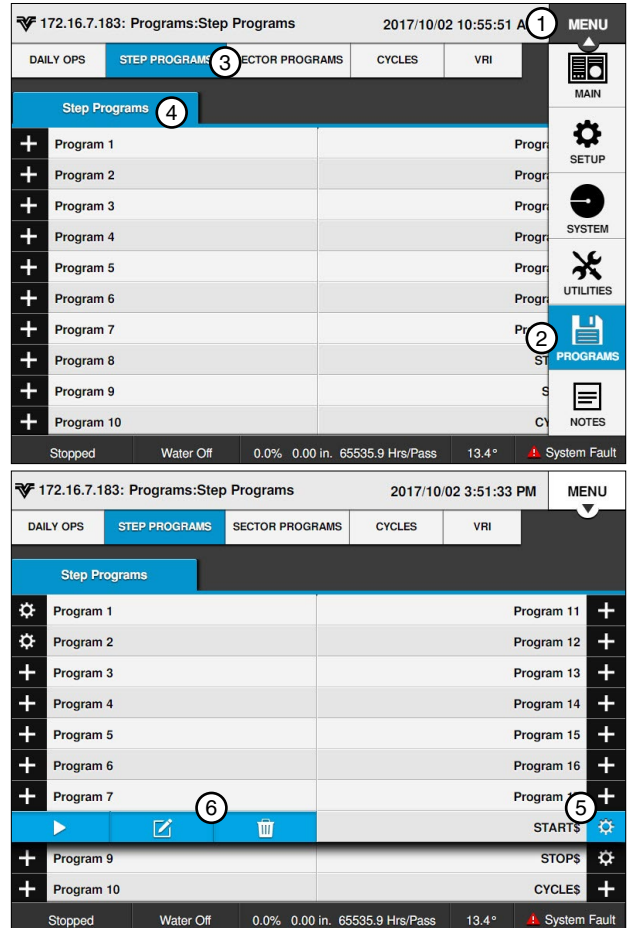

Figure 133-1 1. Menu 2. Programs 3. Step Programs 4. Step Programs 5. Settings 6. Edit
1. Push **Menu**, **Programs**, and **Step Programs** to view the Step Programs screen. Refer to Figure 133-1.
3. Push the **Settings** button (gear icon). Refer to Figure 133-1.